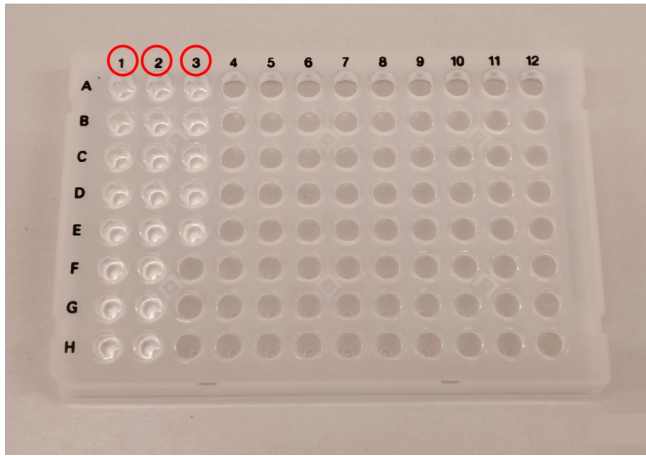
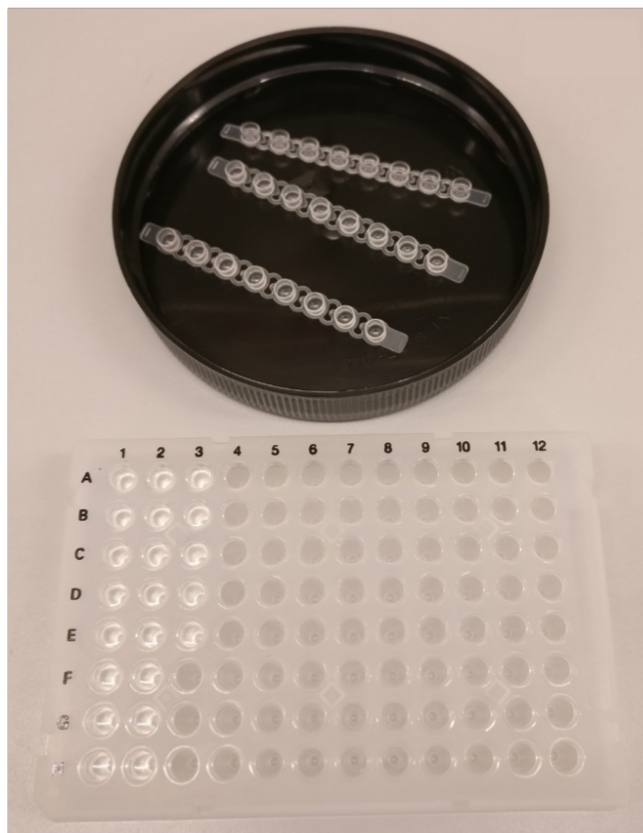

Figure 3a
Figure 3b
- 3 Gather the number of 8-cap strips as fully and partly-filled plate columns (Fig. 3a) and place them on a clean, sterile surface, domes facing downwards (Fig. 3b).